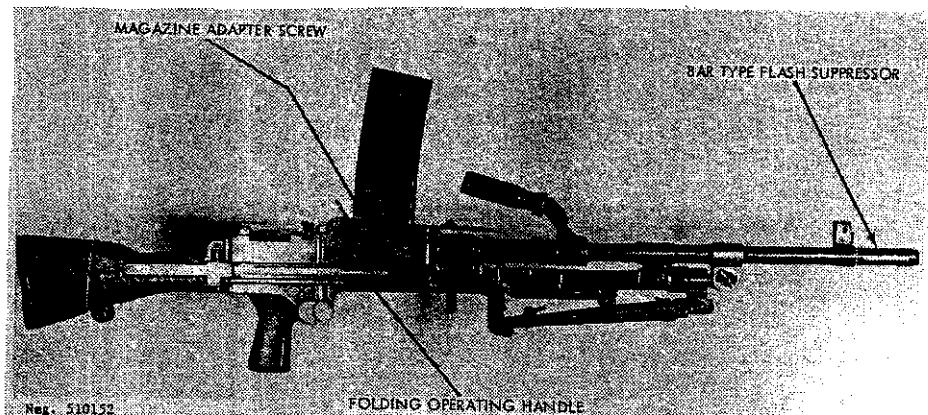

Figure 153. L4A1 Bren.
c. Many Brens now fire the 7.62-mm NATO cartridge. Some were converted from the earlier .303 models, and some are new production. These weapons, the L4 series (fig 153 and 154), can be identified by their bar-type flash suppressors and long, slightly curved magazine. The large head of the screws that hold the magazine adaptor in place is also a major recognition point.